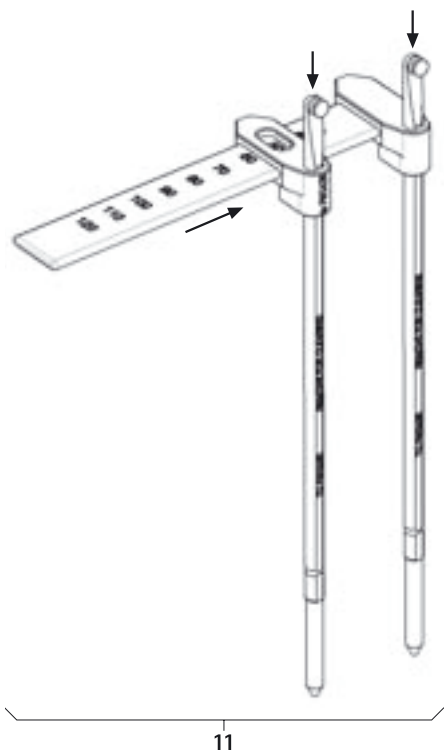

Fig. 15
- Mount rod length measuring instrument 11, see Fig. 15.